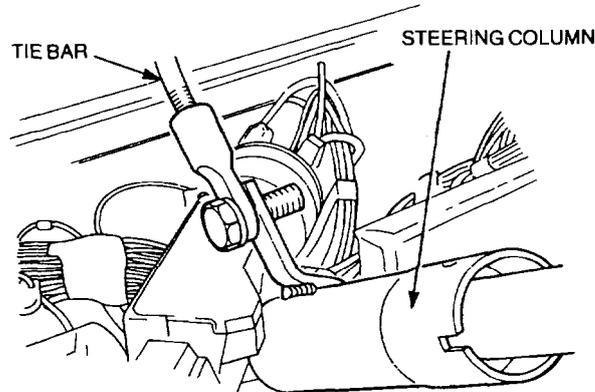

Figure 84 Steering Column Tie Bar Disconnection
- g. Remove the screws securing the instrument panel to the fascia and move the panel away slightly to enable the bolt securing the steering column tie bar to be removed (Figure 84).